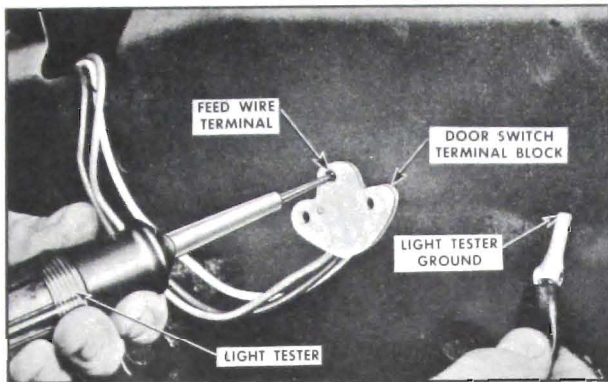

Figure 8-4—Checking Feed Circuit
a. Connect one light tester lead to feed terminal of switch block and ground other tester lead to body metal. See Figure 8-4.